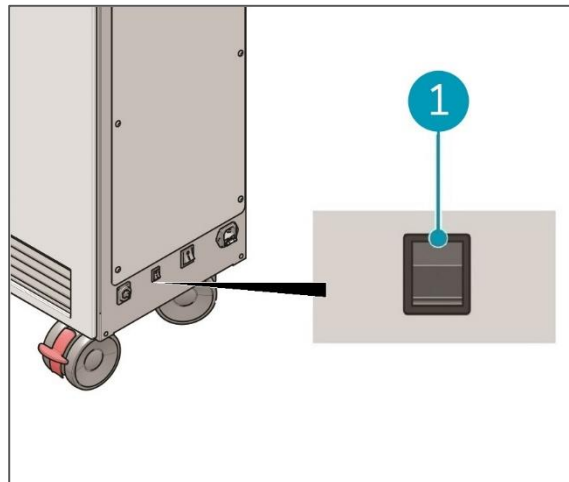

Figure 9
1. Press the boost switch to turn on the boost function (Figure 9, pos. 1).
2. Press the boost switch again to turn off the boost function (Figure 9, pos. 1).